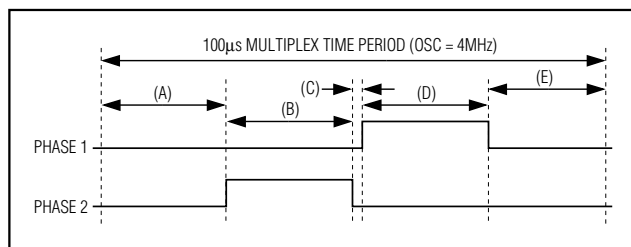

Figure 13. Filament Bridge Driver Timing Waveforms
The waveform generation uses PWM to set the effective RMS voltage across the filament, as a fraction of the external supply voltage (Figure 13) (Table 34). The filament switching frequency is synchronized to the multiplex scan clock, eliminating beating artifacts due to differing filament and multiplex frequencies.
The minimum commutation time, shown at (C) in Figure 13, is set by (2/OSC)s (500ns when OSC = 4MHz) to ensure that shoot-through currents cannot flow during phase reversal. Otherwise, the duty cycle of the bridge (total on time: total time) sets the RMS voltage across the filament. This technique provides a low-cost AC filament supply when using a regulated supply higher than the RMS voltage rating of the filament.